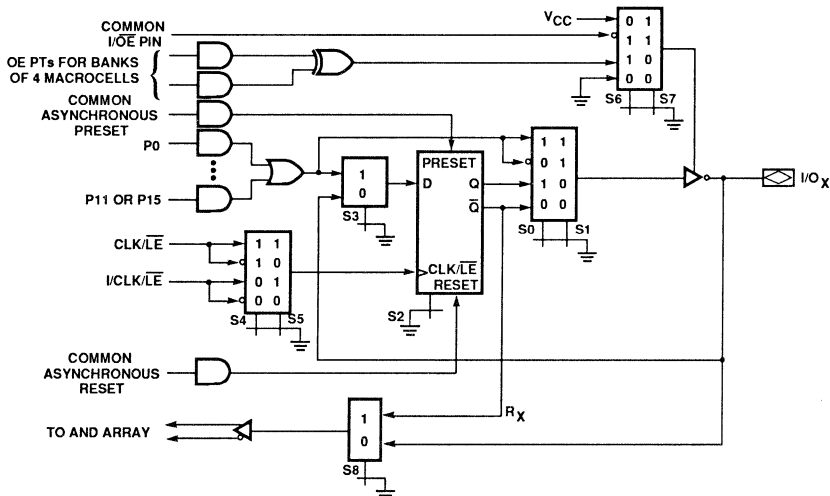
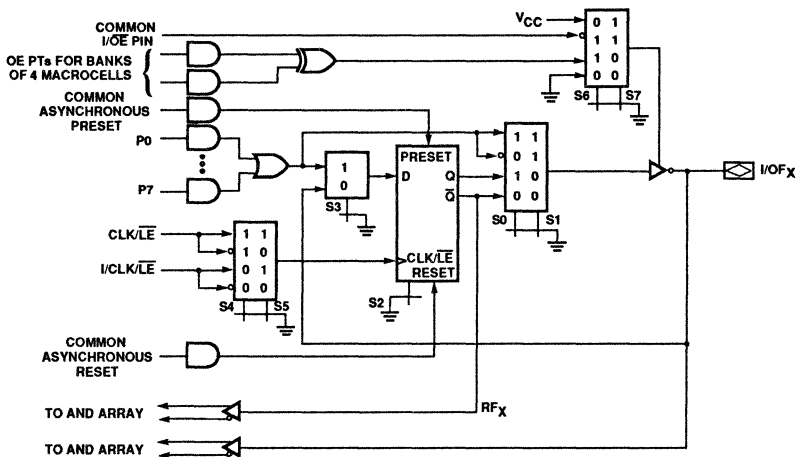

Figure 2a. PALCE29M16H Macrocell (Single Feedback)
Figure 2b. PALCE29M16H Macrocell (Dual Feedback)
**I/O0-I/O7 (PINS 3, 4, 9, 10, 15, 16, 21, 22):** Eight bidirectional I/O pins with two independent feedback paths to the AND array. The first feedback path is a dedicated I/O pin feedback to the AND array for combinatorial input. The second feedback path consists of direct register/latch feedback to the array (see Figure 2b).
**I/O0-I/O7 (PINS 5, 6, 7, 8, 17, 18, 19, 20):** Eight bidirectional I/O pins with user-programmable register/latch or I/O pin feedback to the AND array (see Figure 2a).
Eight of the macrocells ( $I/OF_0$ - $I/OF_7$ ) have two independent feedback paths to the AND array (see Figure 2b). The first is a dedicated I/O pin feedback to the AND array for combinatorial input. The second path consists of a direct register/latch feedback to the array. If the pin is used as a dedicated input using the first feedback path, the register/latch feedback path is still available to the AND array. This path provides the capability of using the register/latch as a buried state register/latch. The other eight macrocells have a single feedback path to the AND array. This feedback is user-selectable as either an I/O pin or a register/latch feedback (see Figure 2a).